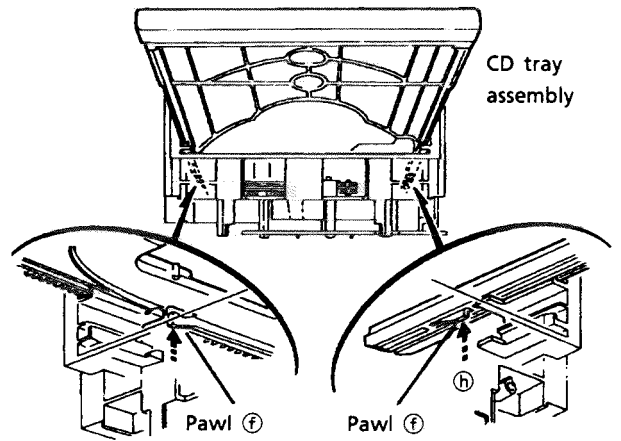

Fig. 27
14. Press 2 pawls (f, f) located rear side of the CD tray ass'y according to an arrow ⑩ to remove the CD tray ass'y. (See Fig. 27.)